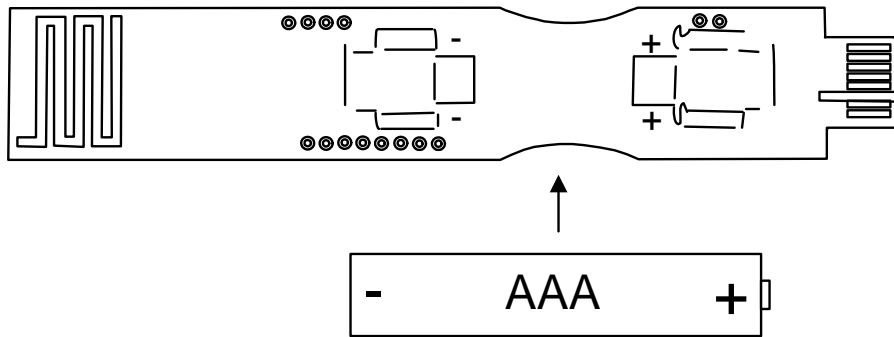

Figure 18. Insert Battery in Node Board
1. Insert a battery in each node board as shown in Figure 18.